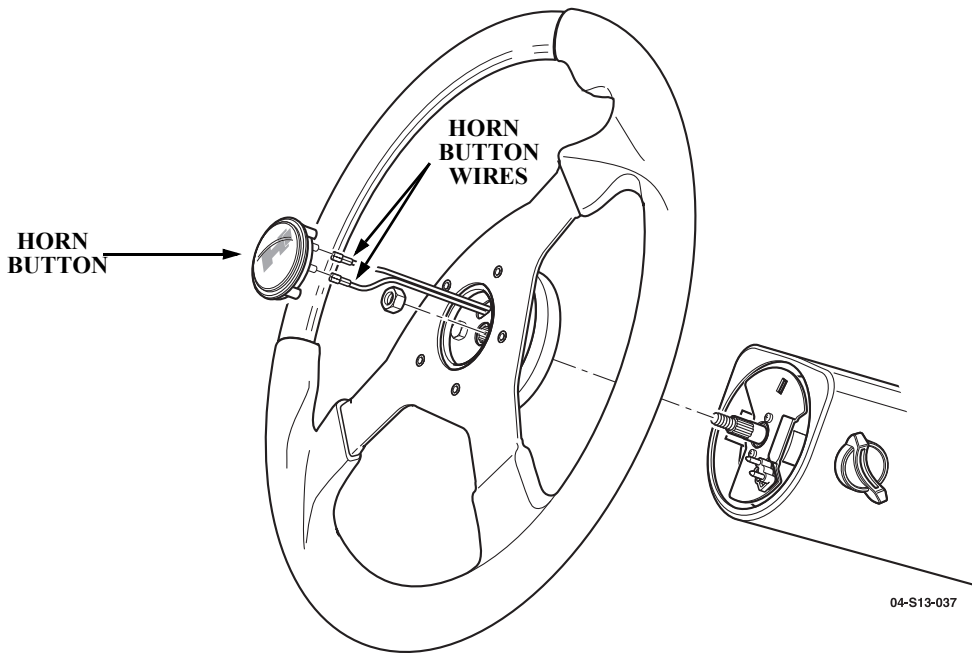

Figure 2: Steering wheel and horn button.
8. Install the new steering wheel and tighten the nut to 35 lb.-ft (47 N•m) (See Figure 2).